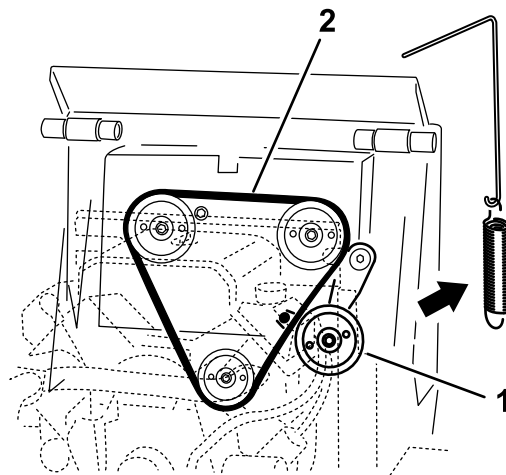

Figure 55
5. Remove the idler pulley spring from the idler-pulley assembly (Figure 55).
7. Install a new drive belt around the 3 pulleys (Figure 55).